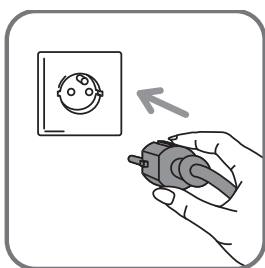

fig.5
- You can plug in your iron **fig.5**.